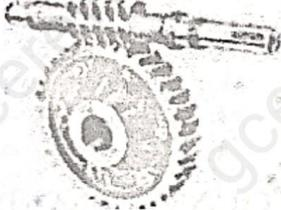

Figure 2
3. The mechanism in figure 2 shows the meshing of